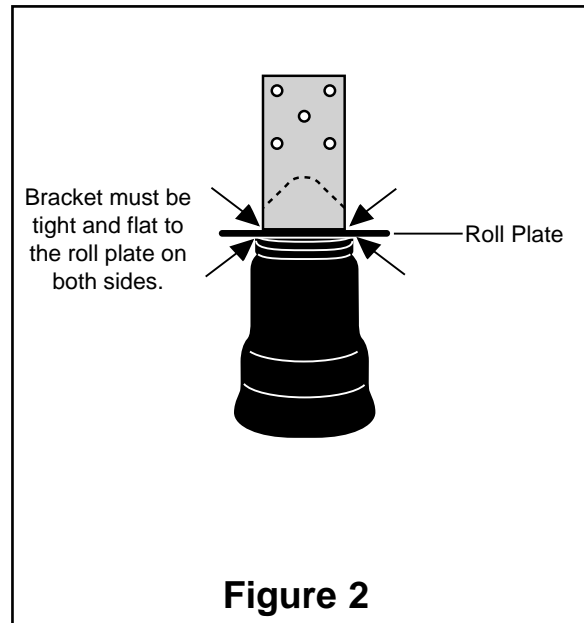

Figure 2
2. Thread the upper bracket onto the air spring. The bracket must be tight and flat to the roll plate on both sides. Hand tight is sufficient (Figure 2). Be sure the air fitting faces the front of the vehicle for proper air line routing.